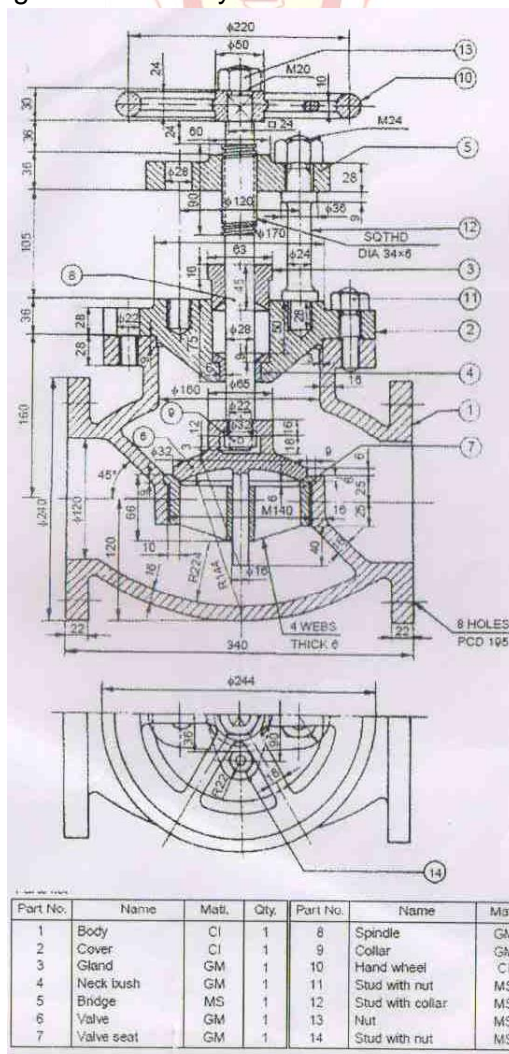

Figure 4 Assembly details of stop valve
2. The assembled view of steam stop valve is given in the figure 4. Draw the component drawing of body, valve, hand wheel with all dimensions.